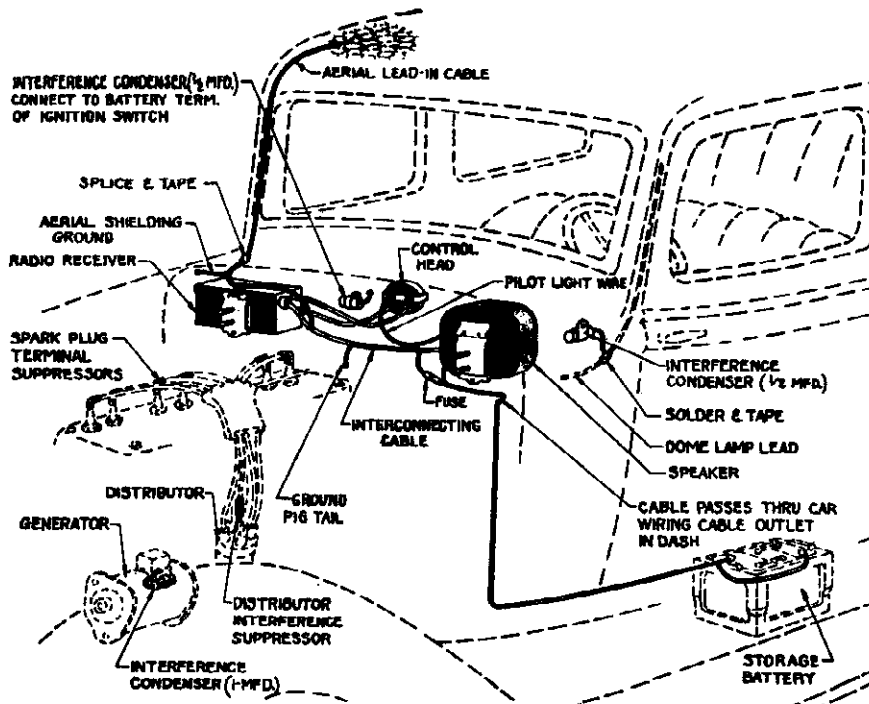

FIGURE 4
Remove the car wiring cable outlet grommet cap on the left-hand side of the dash, so that the battery cable can be installed. Push the metal fuse housing end of the cable through the grommet from the engine side, leaving just enough slack so that the cable can be connected and fastened in place as shown in Figure 4. Route the cable through the clip that holds the car wiring harness and along under the floor boards to the battery. Replace the grommet and cap, but do not connect the cable terminal to the battery terminal at this time.
lead-in. The shielding must be grounded to the cowl panel by drilling a $\frac{1}{8}$ " hole where the hood overlaps and as close to the A pillar as possible, using the 8-32 bolt and nut supplied for this purpose. (See Figures 4 and 5.) Remove paint from around hole.
Place the fuse and fuse insulator in the metal fuse housing of the battery cable and connect it to the small fuse connector which branches out of the interconnecting cable close to the Speaker. The two (2) shield terminals at the fuse housing must be connected under the same terminal screw that is used to ground the speaker cable shield at the speaker. Figure 4 shows the general layout of the cables and connections.
(see Figure 4). Install a 1/2 microfarad by-pass condenser, splicing and soldering it to the dome light lead as close as possible to the point where it enters the windshield pillar. The condenser must be fastened to the cowl panel in front of the hood line by drilling a 1/8" hole where the hood overlaps and as close to the pillar as possible, using the 8-32 bolt and nut supplied for this purpose. (See Figures 4 and 5.) Remove paint from around hole. Replace the car lighting fuse—test the lights and horn.